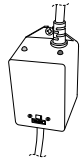

FIGURE 8
20. Once power is activated you can check the ballast (12), Figure 8, to see if the CLEARRAY is functioning; it has two LED indicator lights the green indicating incoming power flow and the red indicating the system is properly working.